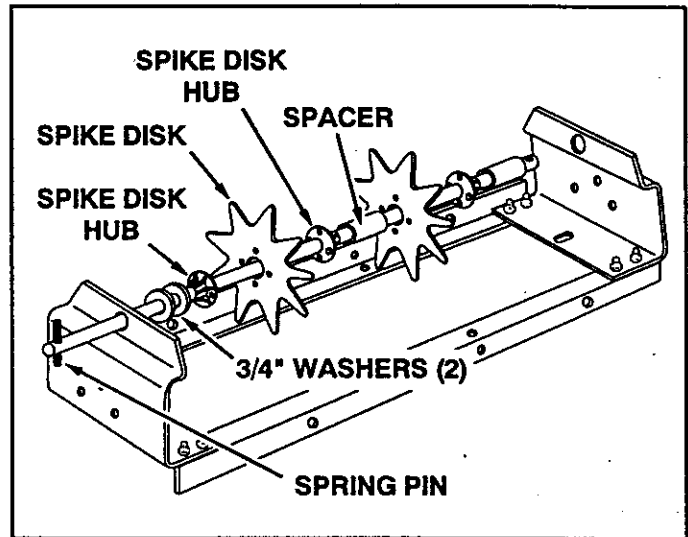

FIGURE 2
- Using a hammer, drive a spring pin through the hole in one end of the axle. Insert the other end of the axle through one of the end plates. See figure 2.
- Assemble onto the axle, in order, two 3/4" washers, a spike disk hub and a spike disk. (The pegs on the hub fit into the holes in the disk.) See figure 2.
- Next, assemble onto the axle, in order, a spike disk hub, a spacer and a spike disk. Repeat until all of the spike disks have been assembled onto the axle. See figure 2.